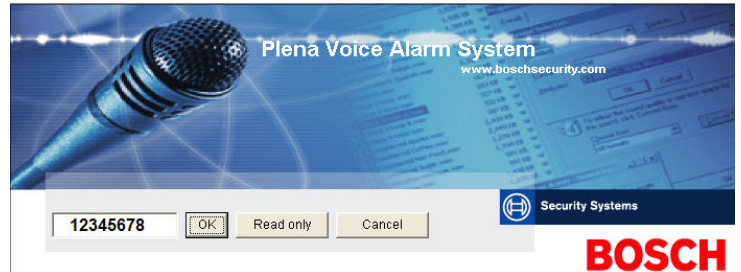

Figure 9 – Voice Alarm configuration startup screen
- 4) A window as shown in Figure 9 will appear.
- 5) De default password to enter the software is "12345678". (figure 9)